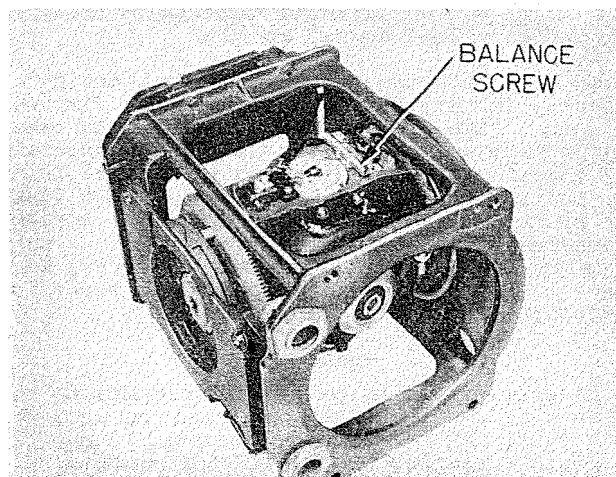

Figure 47D
5. Set the vertical gimbal and gyro vertical (figure 47D), and note the direction in which it departs from the vertical setting.
6. Shift the balance screw (figure 47D) in its bracket until the assembly will remain in the vertical position.